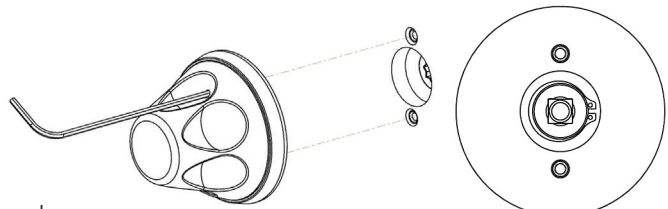

Figure 23
2. Install inside knob assembly by threading mounting screws into lugs from outside adapter plate with supplied Allen wrench. (Figure 23)